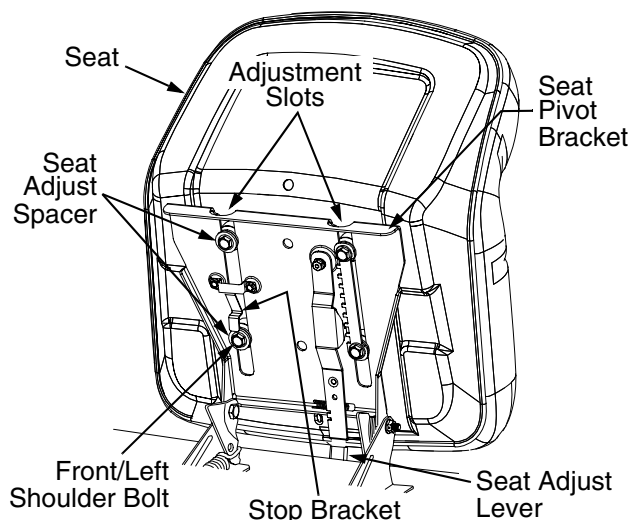

Figure 1
2. Pivot the seat pivot bracket partially upward. Refer to Figure 1.
6. Continue to push the seat forward in the pivot bracket until the front/left shoulder bolt of the seat assembly passes forward of the stop bracket on the seat pivot bracket. See Figure 1.